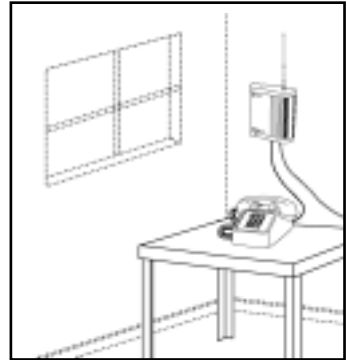

Fig. 1 Optional spike antenna pointed upward and located near the window for optimum signal strength.
- Locate the antenna above ground and as close to windows (or exterior walls) as possible – see Fig. 1.